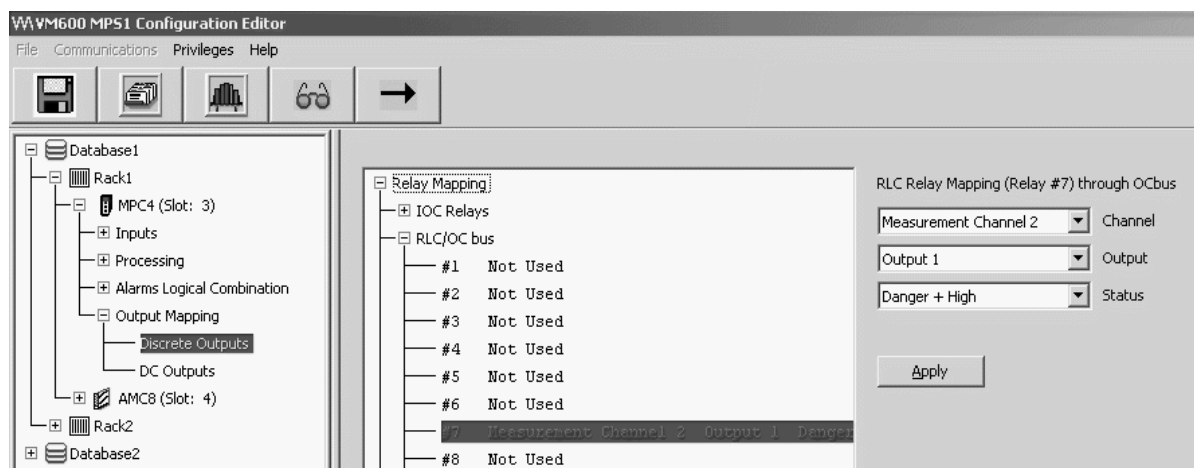

Figure 9-32: VM600 MPS software window to configure the OC Bus
- 4- Using the VM600 MPS software, select the **Discrete Outputs** node (a child of the **Output Mapping** node) in the tree structure (left). Then expand the **RLC/OC bus** node in the main window (right) and select the relay in question (between 1 and 16). See Figure 9-32.
The user must then use the VM600 MPSx software to select Relay 7 from the 16 relays available in the **RLC/OC bus** node. Then, the Danger+ alarm for Output 1 of Channel 2 can be assigned to this relay (see Figure 9-32).